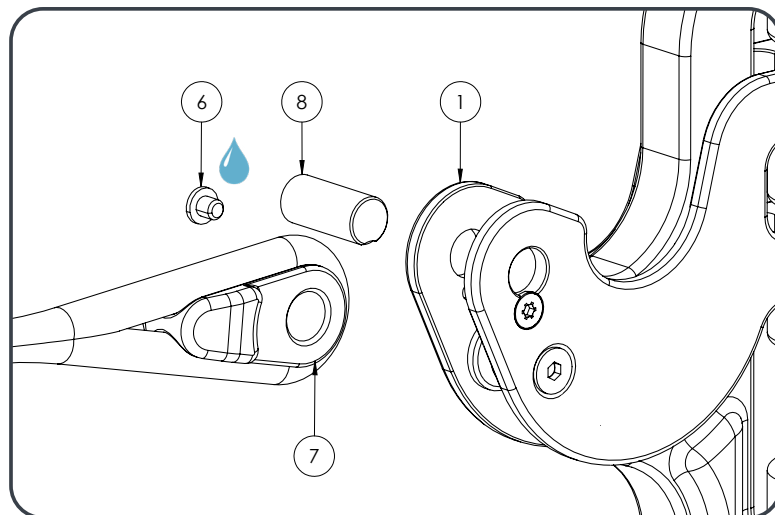

Fig. 2 Attached Thimble with Halyard
1. Remove halyard pin fastener ⑥
2. Remove main halyard pin ⑧
3. Remove thimble ⑦ from gaff lock ①
4. Secure spliced halyard eye to thimble ⑦
5. Thread the halyard eye fitted with the thimble ⑦ through the sail plate ⑨ fitted to the sail (fig.2)
6. Install thimble ⑦ in between gaff lock cheeks ①
7. Insert pin ⑧, rotate until it is seated and secure with fastener ⑥ with a few drops of blue Loctite 423